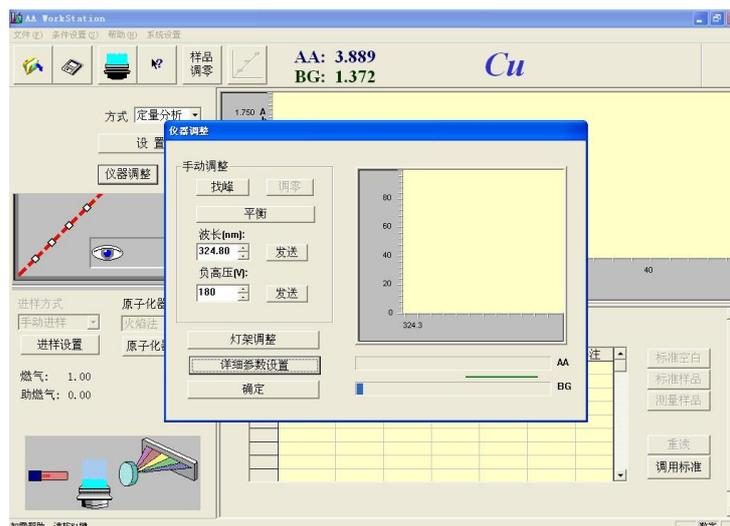

Figure 6-4
6. Press "OK", and the screen for light source adjustment will appear as shown in Figure 6-4. See "Light source correction" for the steps.